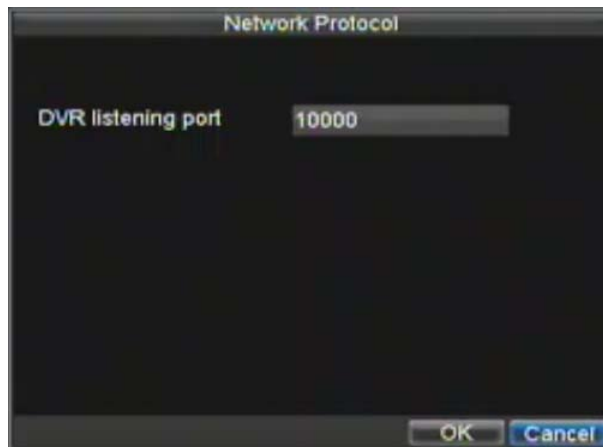

Figure 12. Network Protocol Menu
4. Set the DVR listening port, shown as Figure 12 below.